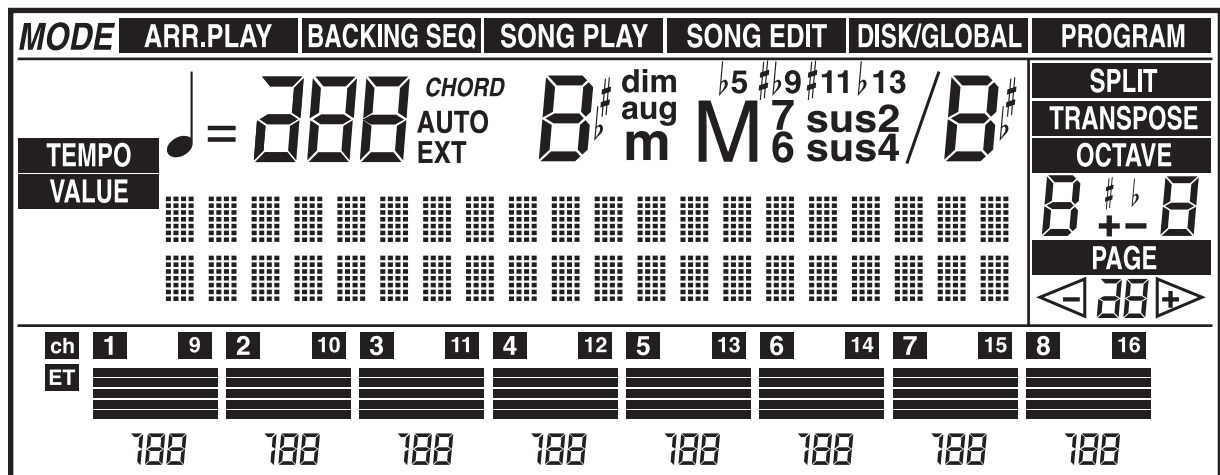

Fig.2: LCD Display
4.1. Check that all the segments of the LCD are lit and the back light lamps are lit. (See Fig.2)